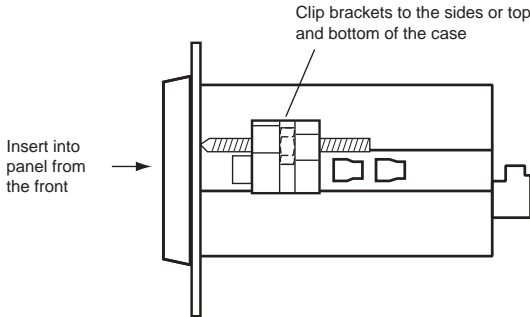

Fig. 2.2 Fitting panel mounting clips
- Fix two panel mounting clips to opposite sides of the instrument and tighten until the indicator is secure as shown in fig. 2.2.